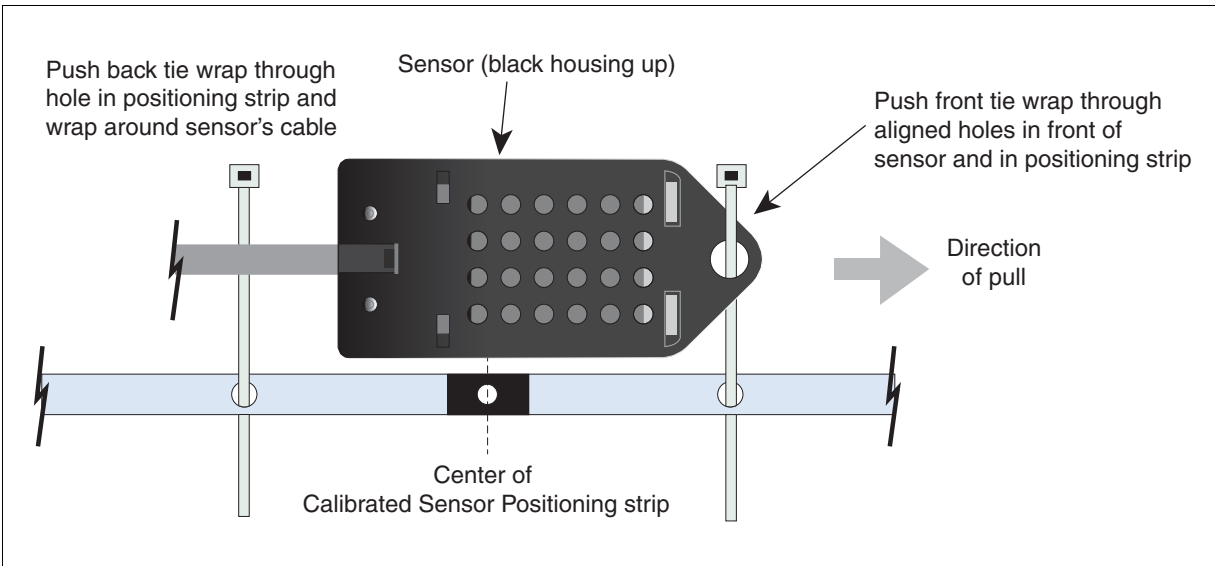
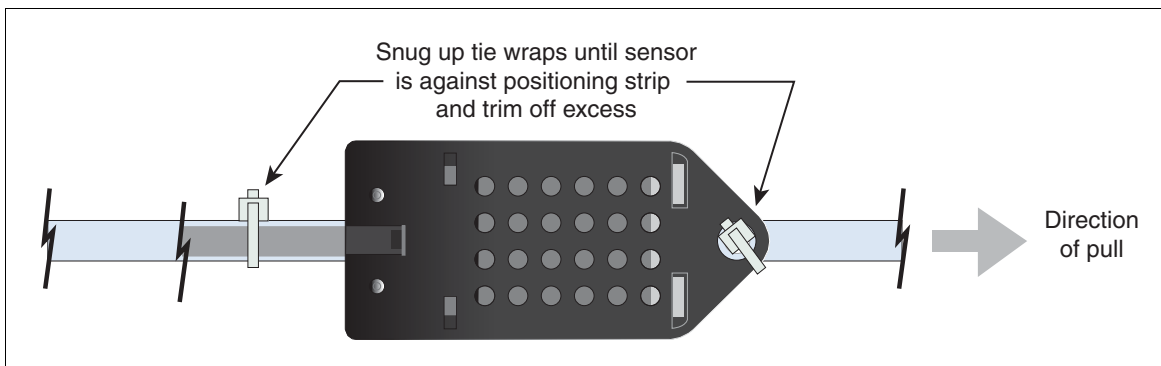

Figure 2.
Figure 3.
- Place the Interstitial sensor along the top of the support strip so that the sensor body is over the painted area and the hole in the front of the sensor aligns with the 5/16" hole to the right of the center hole (see Figure 2). The black housing of the sensor must be facing up and the flat white perforated side of the sensor against the strip.
- Thread one of the tie wraps from the kit through the aligned holes of the Sensor and the Calibrated Support Strip. Snug up the tie wrap until the sensor is flat against the Calibrated Support Strip (see Figure 2). Thread another tie wrap from the kit through the 5/16" hole to the left of the calibrated support strip's center hole and around the sensor's cable. Pull the tie wrap ends until the sensor is snug against the calibrated support strip (see Figure 3). Trim off excess ends from tie wraps.